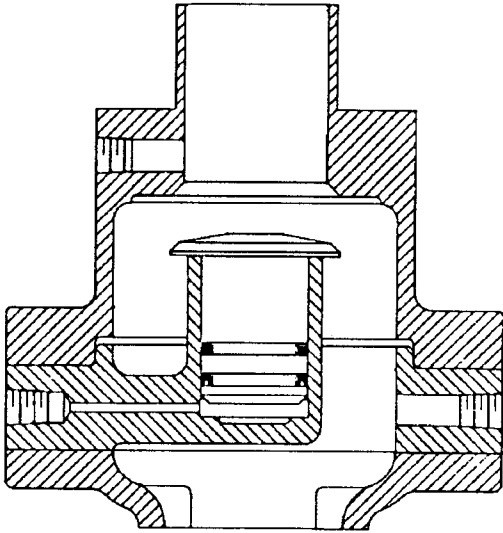

FIGURE 4-2 - INLET VALVE
**Inlet Valve** (Figure 4-2) - The inlet valve is a pilot-actuated valve that restricts the inlet to control capacity and closes to unload the compressor. At shutdown the inlet valve closes to function as a check valve and prevent backflow of air.